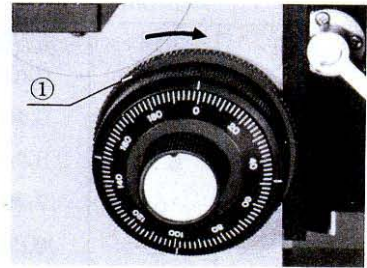

Fig. 13
A tension adjustment ring ① is provided next to the right hand coarse adjustment knob. With this device the tension of the coarse adjustment is freely adjustable for either heavy or light movement, depending on operator preference (Fig. 13). However, do not loosen the tension adjustment ring too much, because the stage drops or the fine adjustment knobs slip easily. It is recommended to tighten the ring especially for prolonged observation or cinephotomicrography.